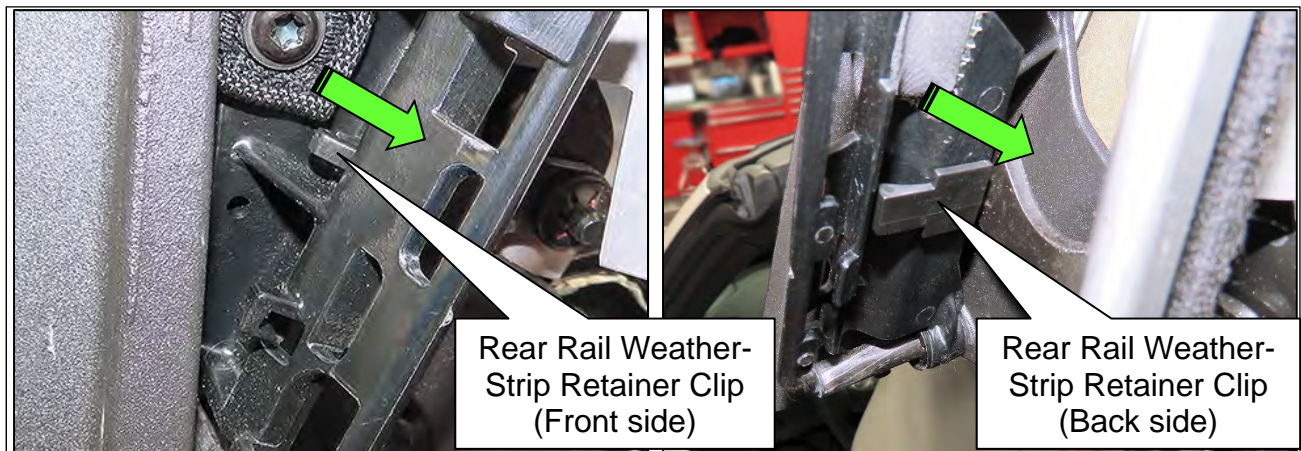

Figure 228
241. Unclip the Rear Rail Weather-Strip Retainer Clip and push it through the plastic Soft Top Linkage Assembly to remove (Figure 228).
- Figure 228 is shown with the Soft Top and Rear Rail Weather-Strip removed to provide an unobstructed view of the Rear Rail Weather-Strip Retainer Clip.